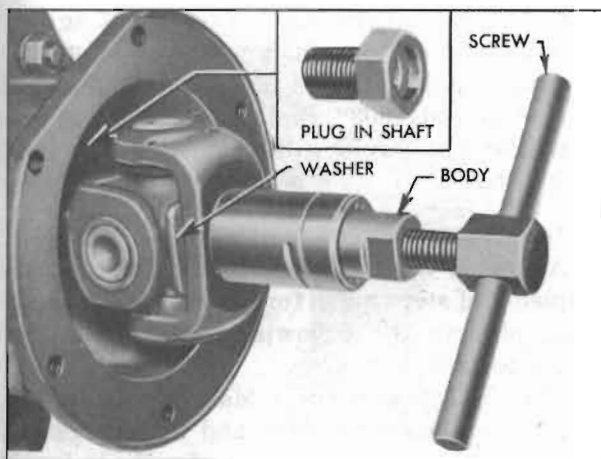

Figure 4-32—Removing Universal Joint with Puller J 682-A
16. Remove retaining bolt and washer then pull universal joint from main shaft, using Puller J682-A. To use the puller, install the pressure plug in transmission main shaft, insert puller body in universal joint rear yoke and install "C" washer in groove in puller body on front side of yoke, then turn screw handle clockwise. See figure 4-32. Remove universal joint spacer from main shaft.